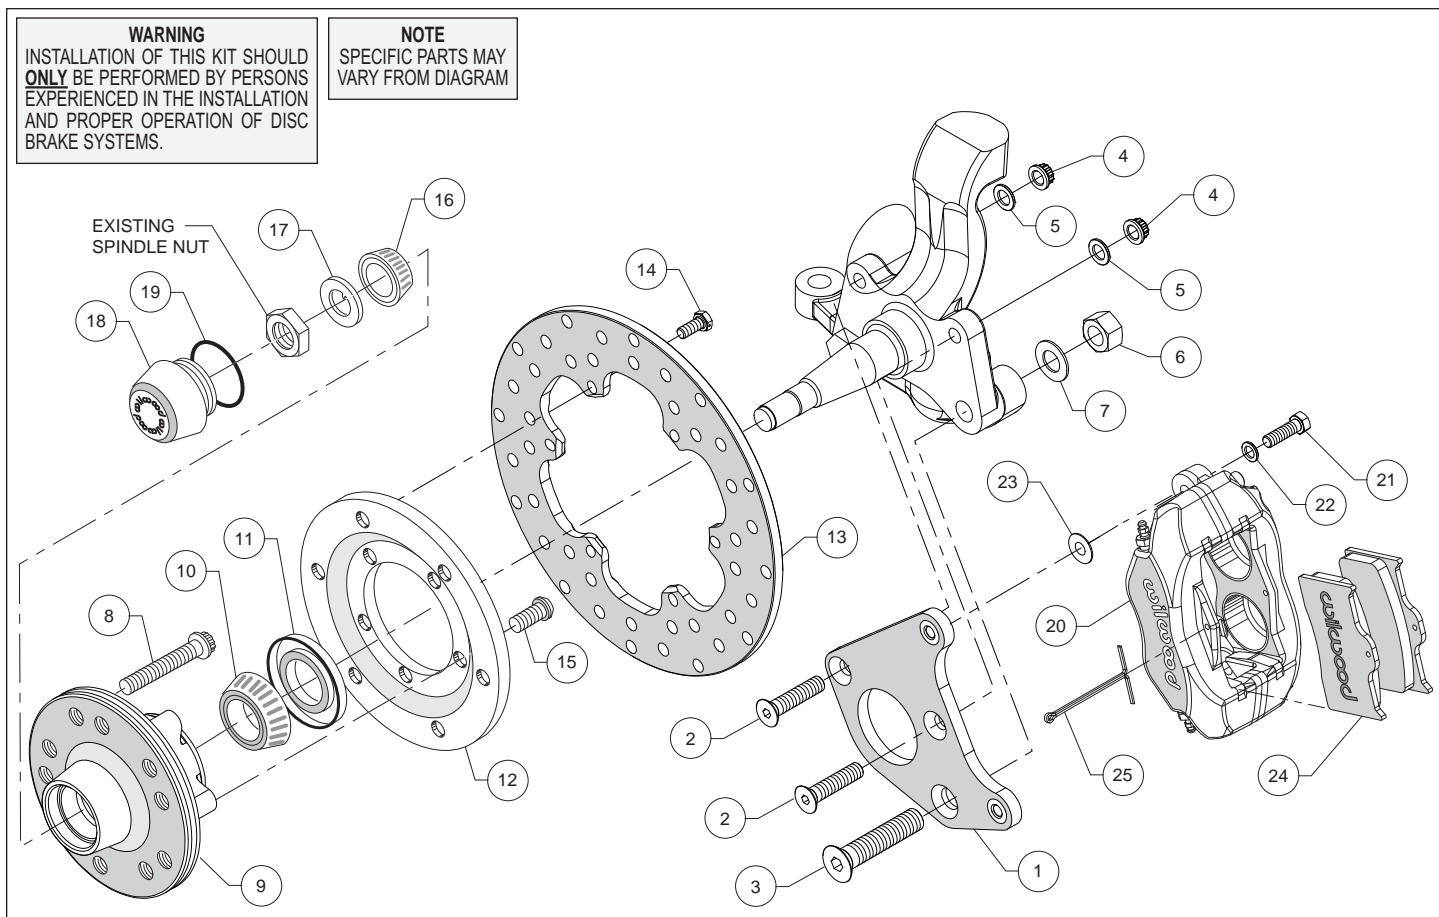
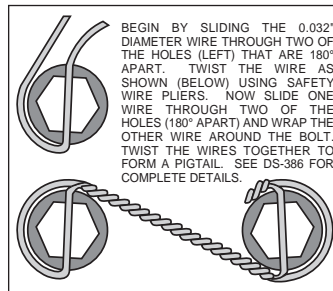
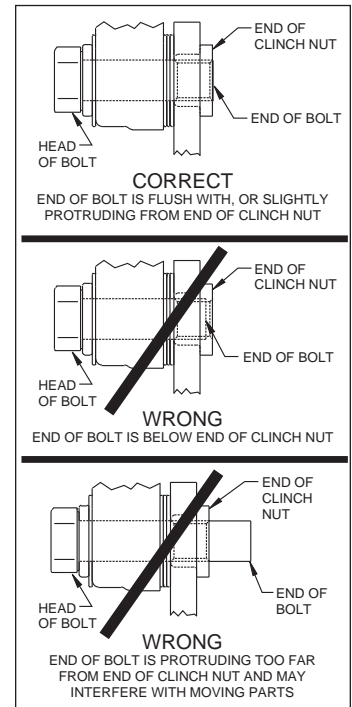

Figure 1. Typical Installation Configuration
Figure 3. Safety Wire Diagram
Figure 4. Clinch Nut Engagement Diagram
Assembly Instructions (numbers in parenthesis refer to the parts list, on the preceding page and Figure 1): **CAUTION:** All mounting bolts must fully engage clinch nuts. Be sure to check that all bolts are either flush or protruding through flanged side of clinch nut after shimming, Figure 4.
- Orient the caliper mounting bracket (1) as shown in Figure 1 and Photo 1. Attach using bolts (2 and 3), nuts (4 and 6) and washers (5 and 7), Figure 1. Temporarily tighten the mounting bolts. Ensure that the flanged heads of the clinch nuts in the bracket are facing outboard, Photo 1. **NOTE:** The bracket must fit squarely against the mounting points on the spindle. Inspect for interference from casting irregularities, machining ridges, burrs, etc. Torque nuts (4) to 47 ft-lbs and nut (6) to 140 ft-lbs.
- Install the grease seal (11) by pressing into the backside of the hub (9), flush with the end of the hub, Photo 3.
- Orient the rotor (13) and the rotor adapter (12) as shown in Figure 1 and Photo 4. Attach the rotor to the adapter using bolts (14). Using an alternating sequence, apply red *Loctite*® 271 to the threads, and torque to 25 ft-lbs. Safety wire bolts using standard 0.032 inch diameter stainless steel safety wire as shown in Figure 3. Refer to Wilwood's data sheet DS-386 (available at www.wilwood.com/Pdf/DataSheets/ds386.pdf) for complete safety wire installation instructions.
- Mount the adapter/rotor assembly (12 and 13) to the hub (9) using bolts (15), as shown in Figure 1 and Photo 5. Using an alternating sequence, apply red *Loctite*® 271 to the threads, and torque to 45 ft-lb.
- Pack the small outer bearing cone (16) with high temperature disc brake bearing grease and install into hub (9). Slide the hub/rotor assembly onto the spindle. Secure using spindle washer (17) and OEM spindle nut, Photo 6. Install saved OEM nut lock (if any) and a new cotter pin (not included). Bearing adjustment: Tighten the nut while turning the hub. When there is a slight bind on the bearings, they are seated correctly. Back the nut off about 1/6 to 1/4 of a turn, or sufficiently to allow .001" to .007" end play. **WARNING:** Failure to back off adjusting nut could cause bearing to run hot and be damaged, which could cause the wheel to lock or come off.
- Screw dust cap (18) into hub (9), Photo 7. Friction created by the o-ring (19) on the dust cap keeps it from unscrewing. **NOTE:** The O.D. of the existing OEM spindle washer may be larger than the I.D. of the dust cap not allowing it to seat against the hub face. Therefore, use the spindle washer (17) supplied with the kit instead of the OEM washer.
- NOTE:** Please reference the caution statement at the beginning of the assembly instructions. Mount the caliper (20) onto the caliper mounting bracket (1) using bolts (21) and washers (22), as shown in Figure 1. Initially place one .035" thick shim (23) on each bolt between the caliper and the bracket, Photo 8. Temporarily tighten the mounting bolts and view the rotor (13) through the top opening of the caliper. The rotor should be centered in the caliper, Photo 9. If not, adjust by adding or subtracting shims (23) between the bracket and the caliper. Always use the same amount of shims on each of the two mounting bolts. **NOTE:** The end of each bolt must be flush with or slightly protruding from the head of the clinch nut, as shown in Figure 3. If necessary place spare shims between washer (22) and caliper mounting ear to achieve the proper clinch nut engagement. Once the caliper alignment and clinch nut engagement are correct, remove the bolts one at a time, apply red *Loctite*® 271 to bolt threads, and torque to 40 ft-lb. For an added measure of security, the bolts may be safety wired using standard 0.032 inch diameter stainless steel safety wire as shown in Figure 3. Refer to Wilwood's data sheet DS-386 (available at www.wilwood.com/Pdf/DataSheets/ds386.pdf) for complete safety wire installation instructions.
- Install the disc brake pads (24) into the caliper, with the friction material facing the rotor (13), Photo 10, and secure in place using cotter pin (25), Photo 11.